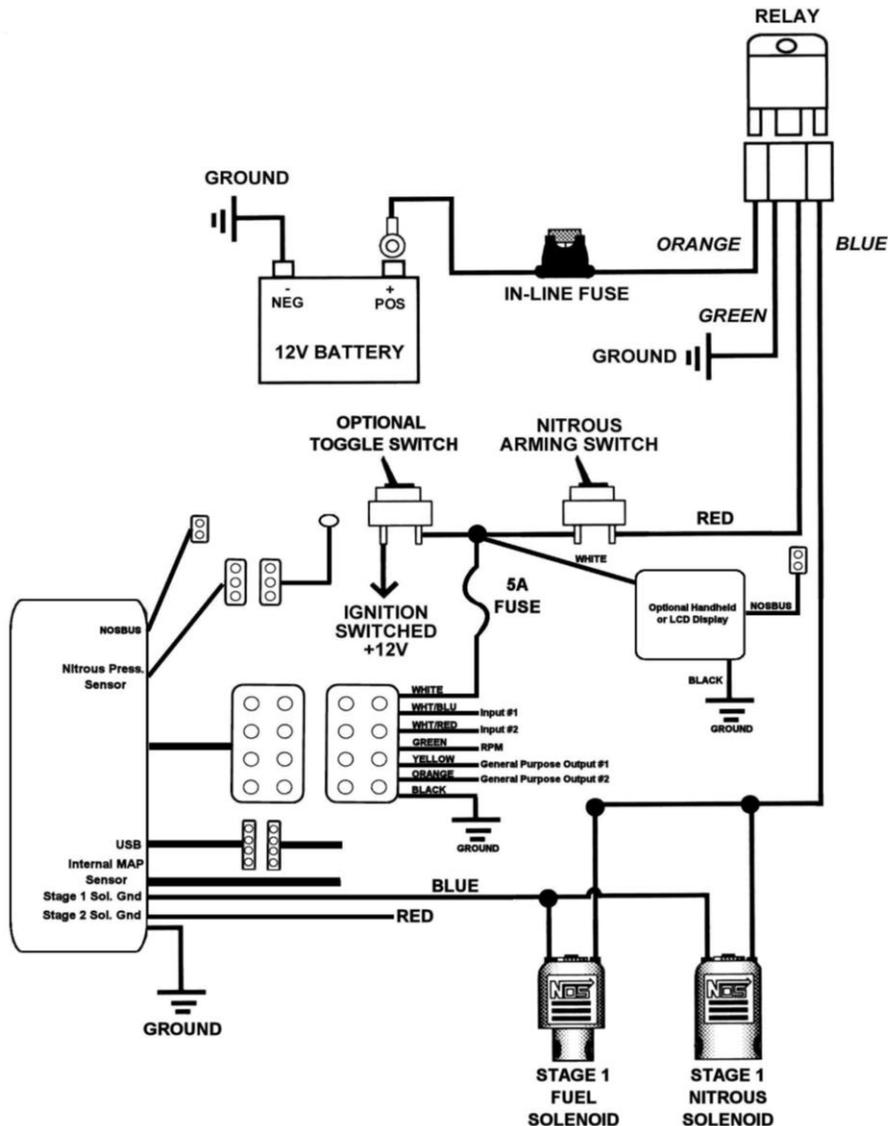

Figure 1 MASTER WIRING
9. The 12 ga Blue and Red wires are the solenoid ground outputs. The system works by providing a **ground** to the solenoids. These wires are to be connected directly to the solenoids. Power must be supplied separately to the solenoids by utilizing an appropriate relay. See figure 1.
1. If the Hand-Held Controller or Touch Screen LCD is used, it should be installed and wired at this time. These units have a power and ground wire as well as NOSbus connection. Connect the white power wire to a fused switched 12 volt power source. Connect the black (ground) wire to a good chassis ground. See figure 1. The optional toggle switch can be installed if the user wishes to not have the LCD and/or main controller powered at all times.